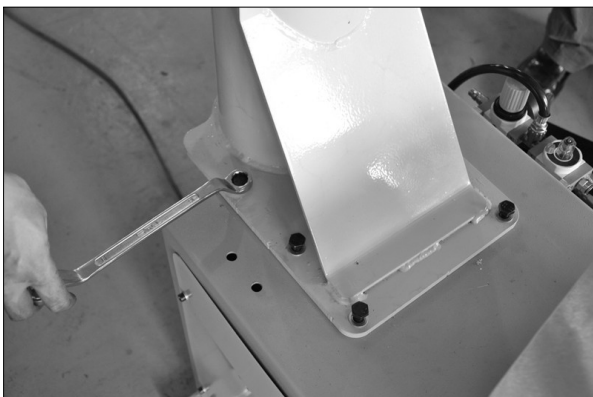

Fig. 7
- Place the vertical post on the body. The direction of the warning label is forwards. Make the holes on the column base plate align to thread holes on the body. Once again assemble the removed bolt, elastic washer and plate. The torque is 70 N·M (Fig. 7). Use torsion wrench to tight.